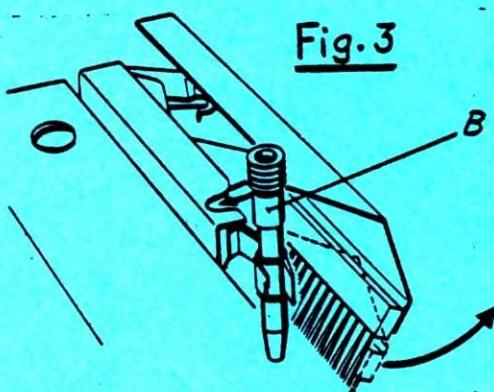

Fig.3
- Take one VM-feeding eyelet (B) and place it into feeding eyelet carrier on the lock, see Fig. 3. To be able to do so, pull carrier forward until it opens in a pincer-like movement as shown in Fig. 3. Press centre part of feeding eyelet into the clamp on carrier.